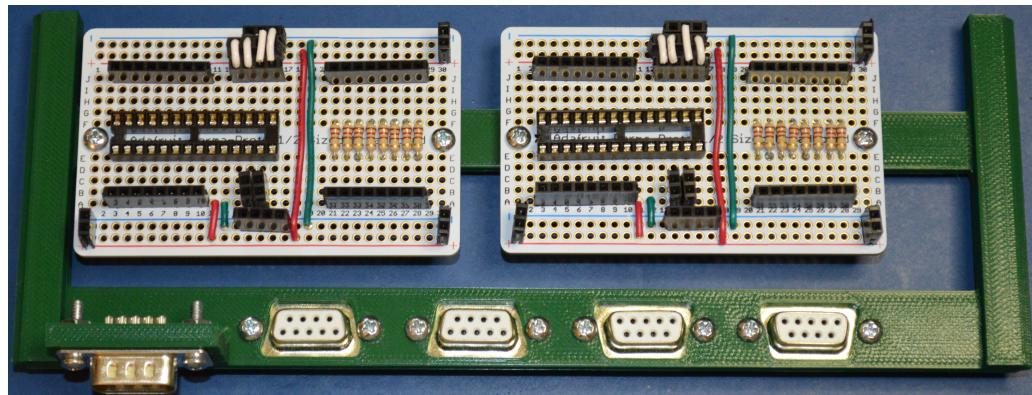
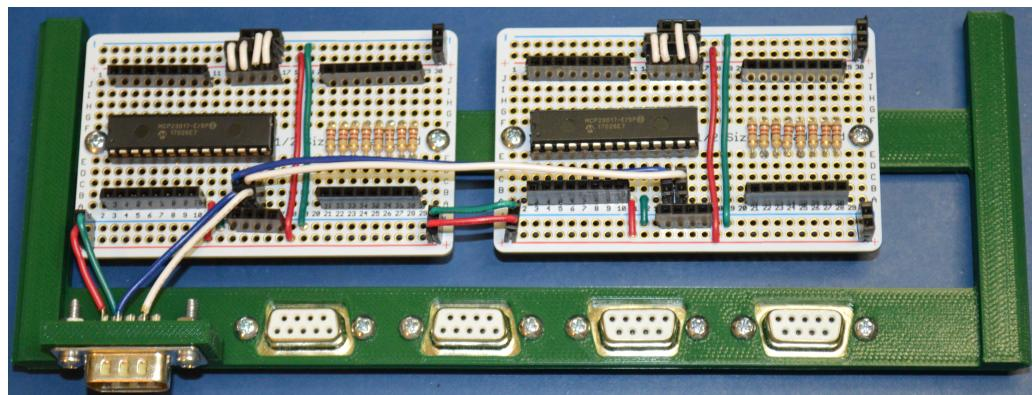

Figure 2.6: Panel I/O Tray with GPIO Boards with Address and Reset Jumpers Installed. These are Control LED and Control Switch Boards
Figure 2.7: Panel I/O Tray with GPIO Boards with Power, I2C, and MPC23017s Installed
- Add wiring for power, I2C, and board configuration (Figure 2.6 shows the address and reset jumpers installed. From the address jumpers, these are the control LED and control switch boards) and install the MCP23017s. See Figure 2.7. If the processor and bus cable are ready, this can be hooked up to see that the processor detects the MCP23017s.